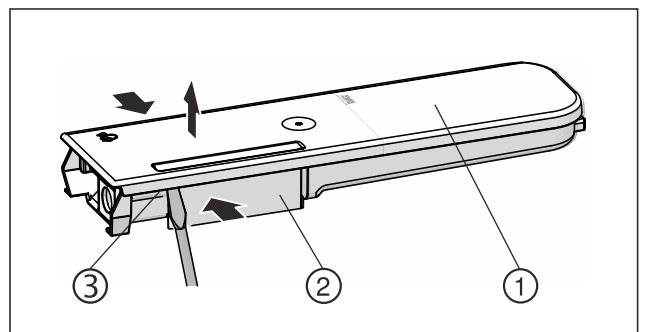

*Fig. 145*
- ▶ Lift the glass panel and fold towards the rear until it clicks into place *Fig. 145 (1)*.
- ▶ Slide the slider *Fig. 145 (2)* to the left.
- ▶ Remove the water tank *Fig. 145 (3)*.